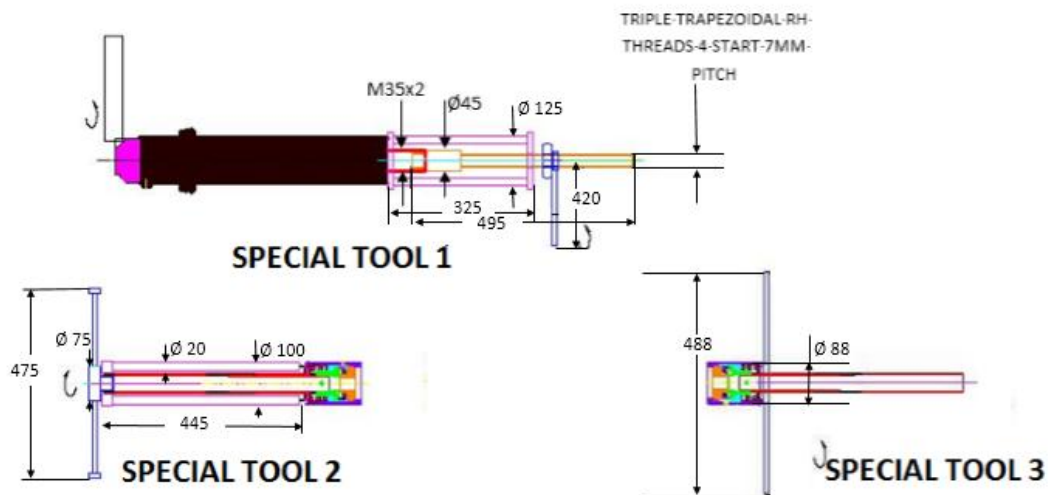

Figure 37: Special Tools
7. Special Tool 1 (For Adjuster Tube Assembly-9 of Fig.37)
8. Special Tool 2 (For Circlip -14 of Fig.37)
9. Special Tool 3 (For Clutch sleeve -6 of Fig.37)